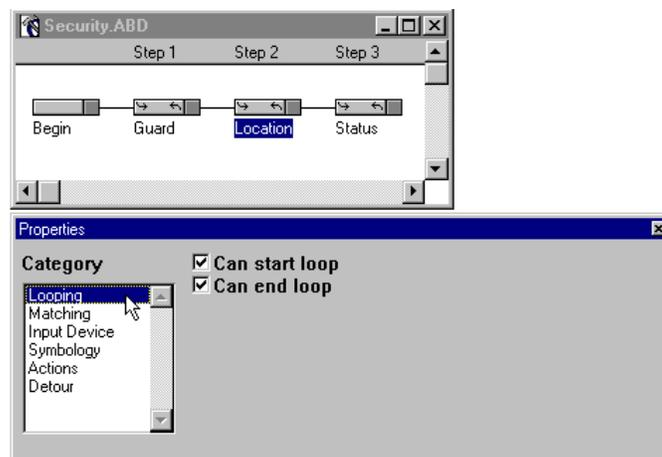

Figure 3-32 "Location" Handler - Looping Property
28. Select **Looping** from the **Properties** window **Category** list (Figure 3-32).